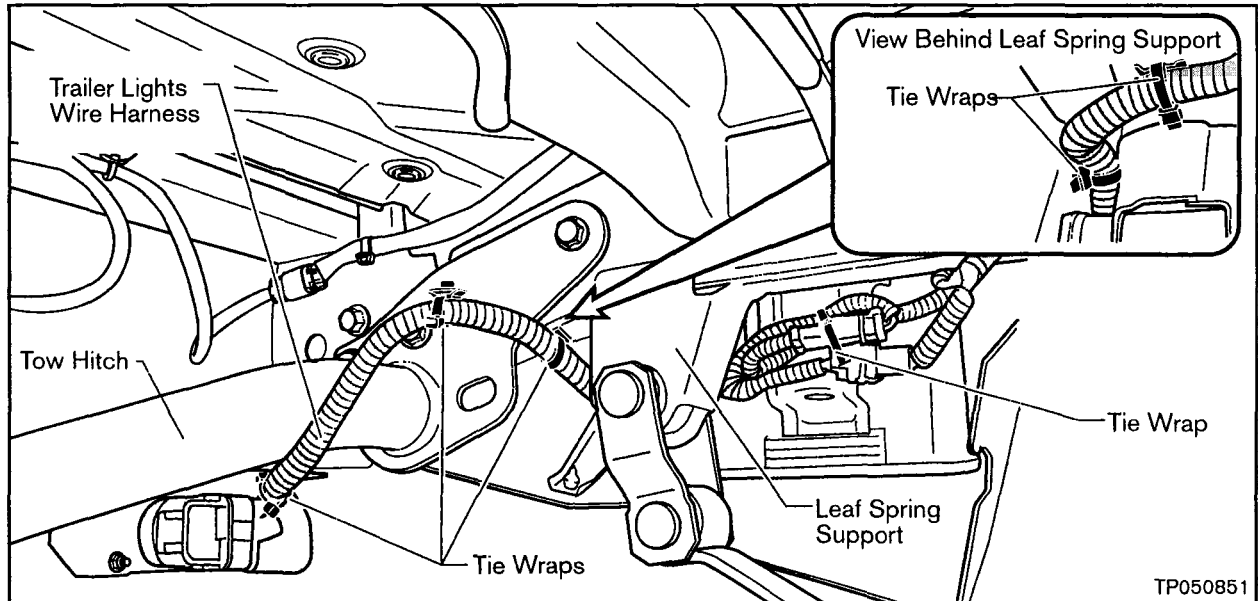

Figure B10
- d. Route and connect the Trailer Lights Wire Harness to the vehicle as shown in Figure B10.
**CAUTION:** Make sure the harness is routed and secured as shown in Figure B10, especially around the leaf spring support.